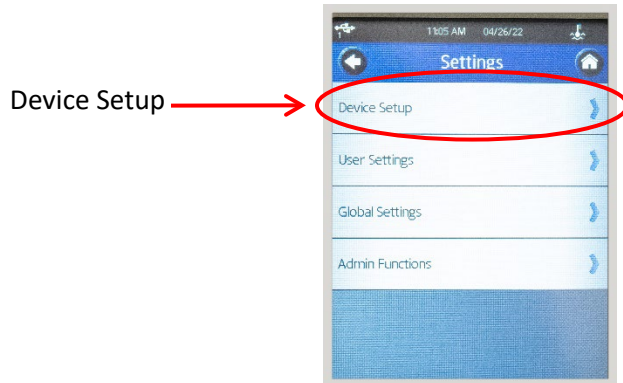

Figure 25: Settings Screen
13. Press the **Device Setup** button. See Figure 25.